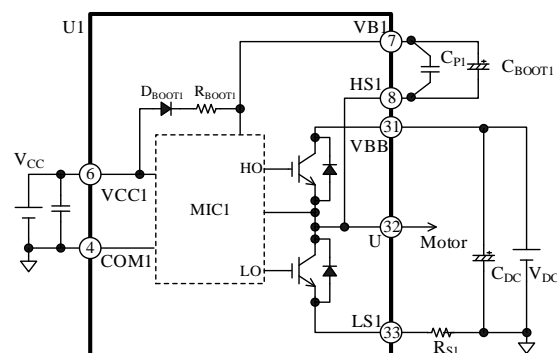

Figure 12-1. Bootstrap Circuit
As Figure 12-1 shows, a bootstrap diode, D_{BOOTX} , and a current-limiting resistor, R_{BOOTX} , are internally placed in series between the VCC_X and VB_X pins. Time constant for the charging time of C_{BOOTX} , τ , can be computed by Equation (3):